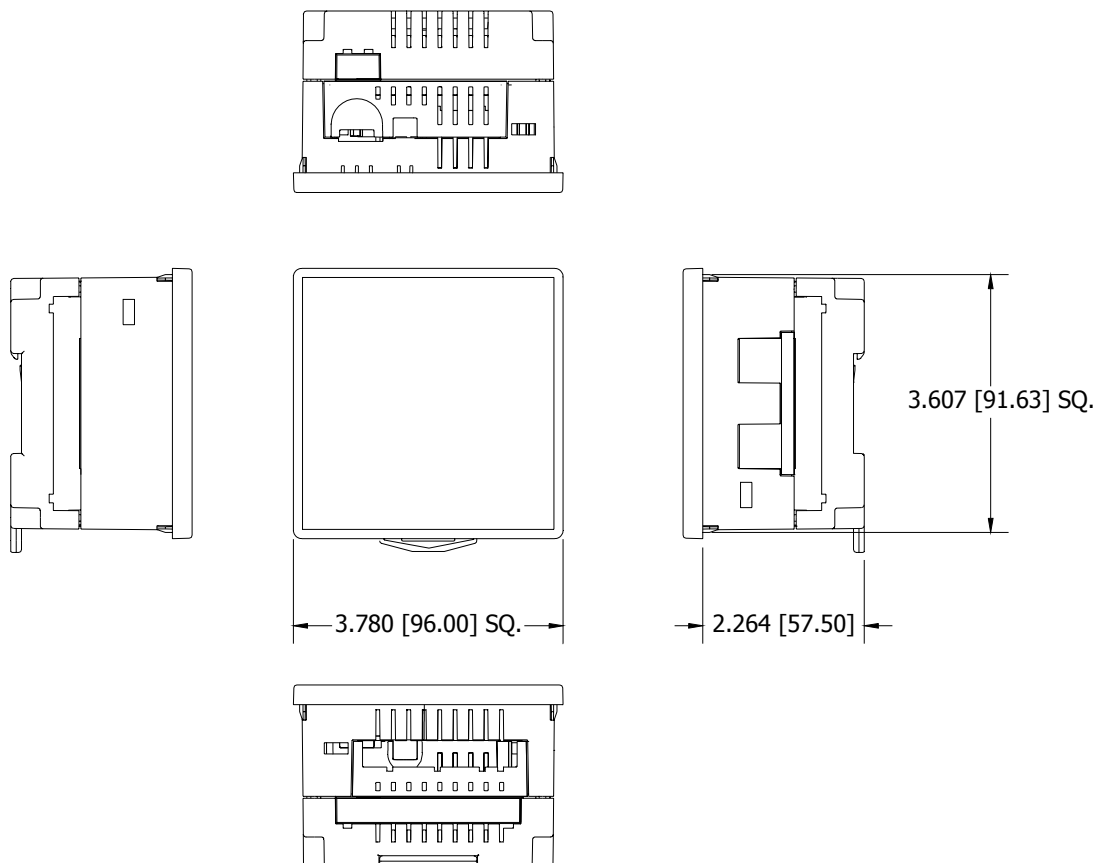
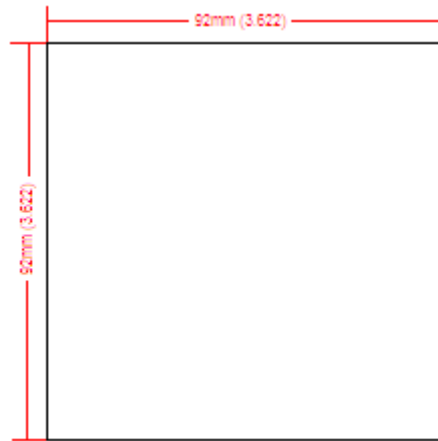

Figure 1 – i³ Dimensions
Figure 2 – *i*³ Panel Cut-Out
1. In line with the specifications illustrated in *Figure 1* and *Figure 2* – carefully prepare the panel cutout. Ensure that the corners of the cutout are square and free from burrs.
2. Place the unit in the panel cut-out, secure the unit using the four (4) supplied mounting clamps.